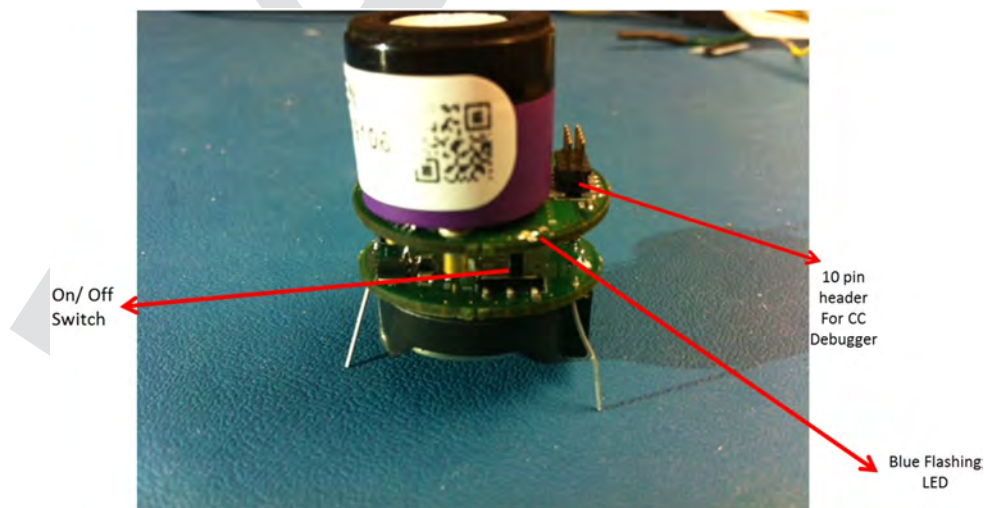

Figure 3-3. System Running With LED Flashing
3. Turn the on/off switch to the right (with respect to the orientation shown in Figure 3-3).
6. If needed, connect the CC-DEBUGGER (not included in the kit) to the 10-pin header as shown in Figure 3-3. If changes to the default firmware are needed, see Section 7.2.